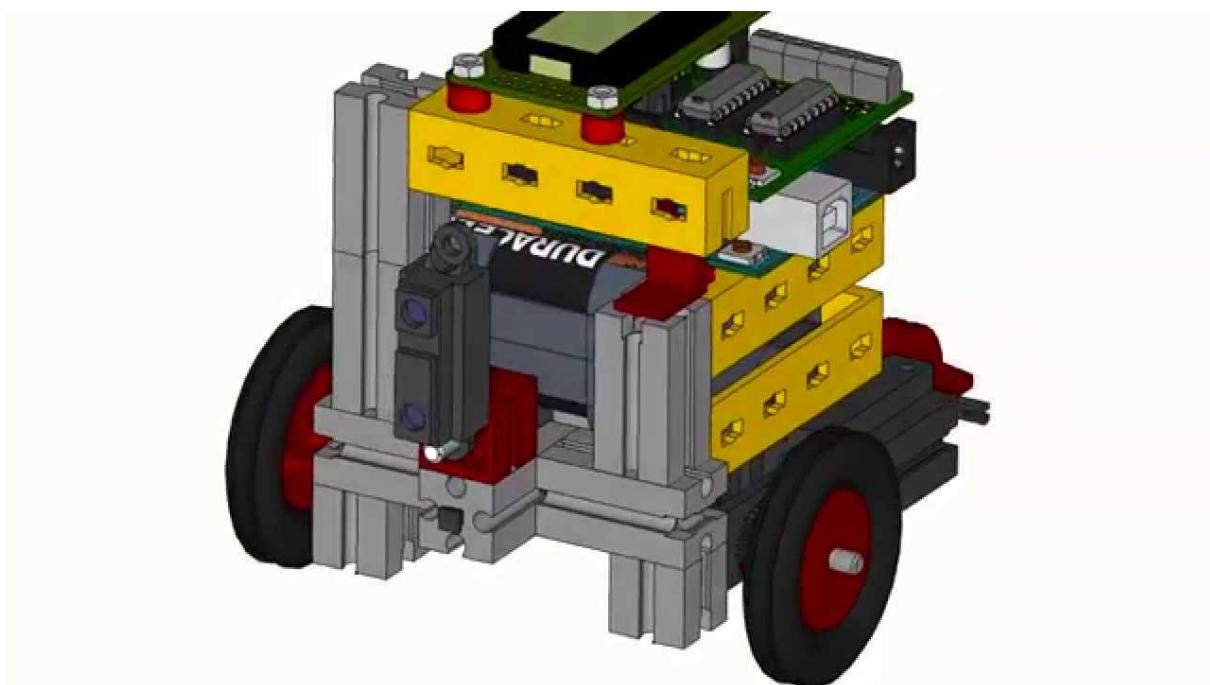

Figure 6.5: Mounting possition of analog distance sensor.
2. Equip the robot with distance sensor according to video and scheme (see fig. 6.5).